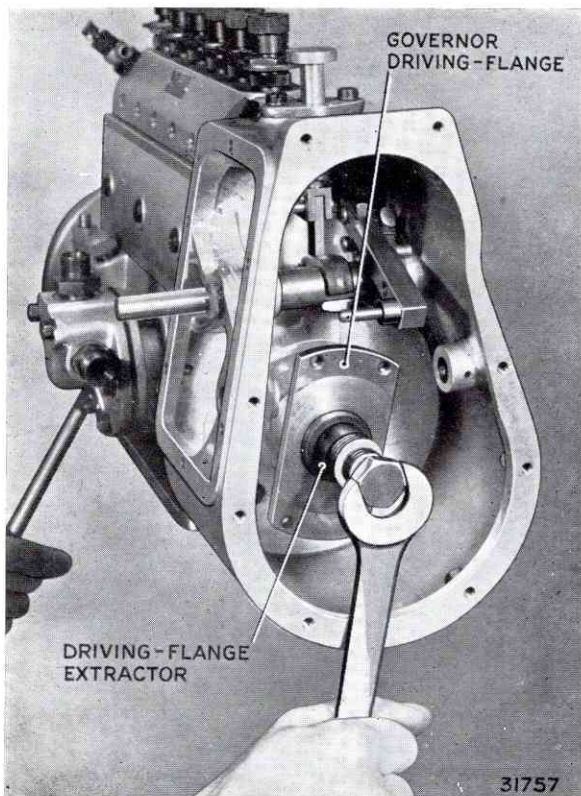

FIG. 87. REMOVING GOVERNOR DRAWING FLANGE
8. Unscrew nut securing driving centre and using a special drawer (Fig. 87), remove the driving centre.